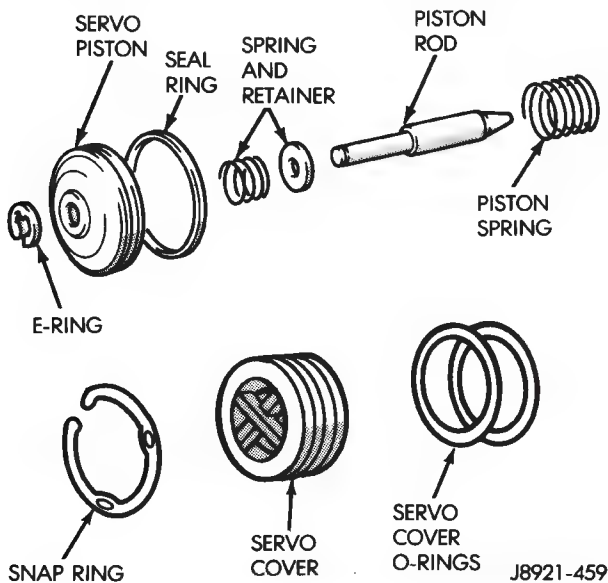

Fig. 32 Second Coast Brake Servo Components
(4) Remove and discard seal and O-rings from cover and piston (Fig. 32). Inspect E-ring, piston, spring and retainer, piston rod and piston spring. Replace worn or damaged parts.